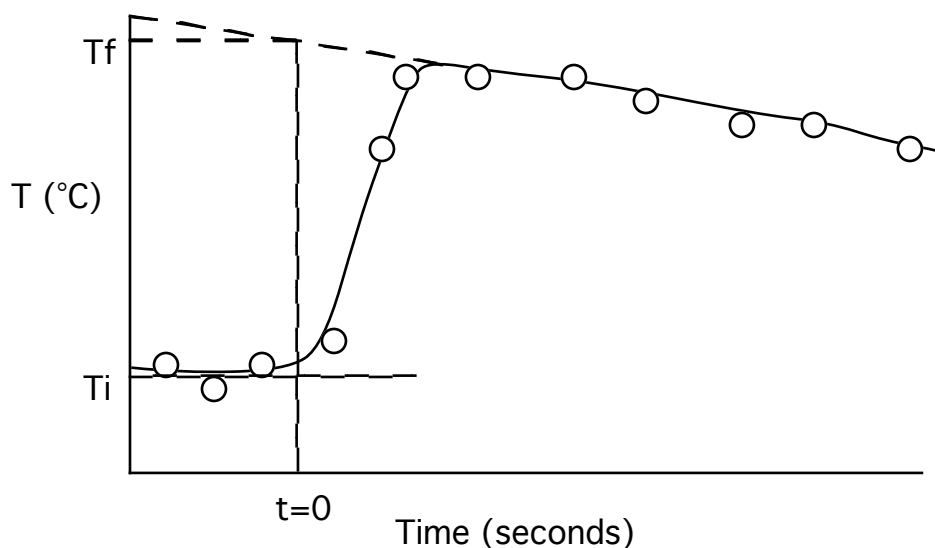

Figure 1. Determining T_f from a plot of temperature as a function of time.
Because no calorimeter is free from heat leaks, it is possible that you will see some heat loss to the surroundings reflected in your data. Figure 1 shows a temperature vs. time plot for a calorimetric experiment in which the reaction was exothermic. After the initial sharp rise in temperature when the reaction is begun (at time of mixing, $t = 0$ seconds), the temperature begins to decrease due to heat loss from the calorimeter. As the temperature equilibrium becomes complete, the loss becomes steady and the
Allow the computer to continue to collect data as you swirl the calorimeter until the temperature has reached its maximum and starts to decline as in Figure 1 (p. 4). You should collect data for about 5 minutes. When you have collected a sufficient amount of data, click on the **red button** to stop the data collection. Remove the temperature probe from the solution in the cup and rinse it thoroughly with water.
1. Determine the T_f ($\pm 0.1^\circ\text{C}$) from your plot for *Measuring* (C_p, cal) by the extrapolation method shown in Figure 1. Calculate the heat capacity, (C_p, cal), of the calorimeter using **Eq. 9**. This value is usually small (less than 20 J/Kelvin or 0.020 kJ/Kelvin). It is such a small value that it is of the same order of magnitude as the experimental error; consequently, the calculation could yield a small negative number. Should this be the case, simply assign (C_p, cal) the value of 0.0 kJ/Kelvin.